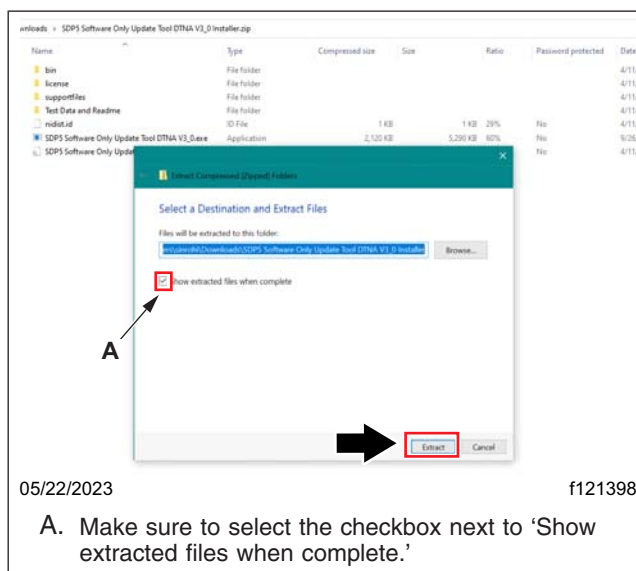

Fig. 5, Extract Compressed (Zipped) Folders Window
7. The 'Extract Compressed (Zipped) Folders' appears. Make sure the checkbox next to 'Show extracted files when complete' is selected, then select 'Extract.' See Fig. 5.